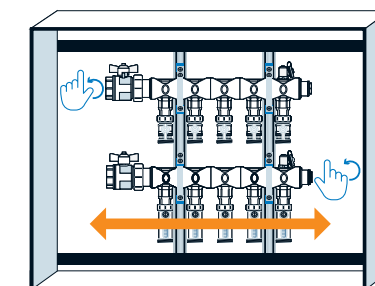

Figure 10: Square and level manifold assembly
5. Move manifold assembly back to square and level (see **Figure 10**).